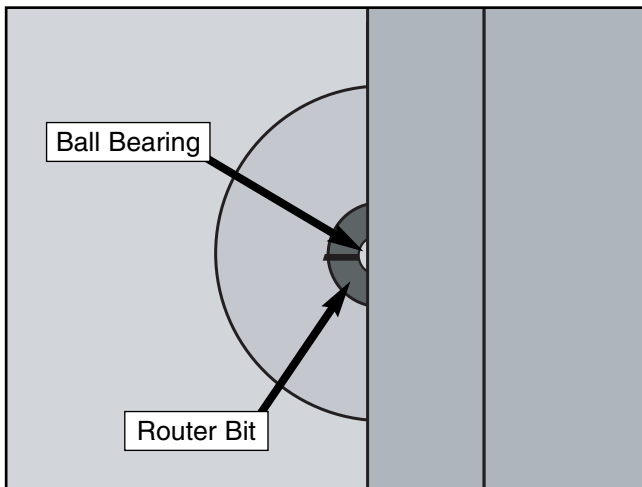

Figure 23. Proper setup for profile cutting.
5. Adjust the fence back away from the bit only enough to allow the bearing to control the depth of cut as shown in **Figure 23 & 24**.